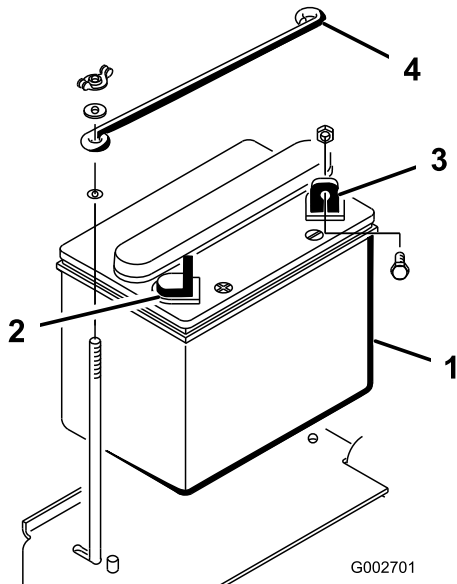

Figure 6
1. Set the battery in place, with the negative terminal positioned to the rear of the machine (Figure 6).